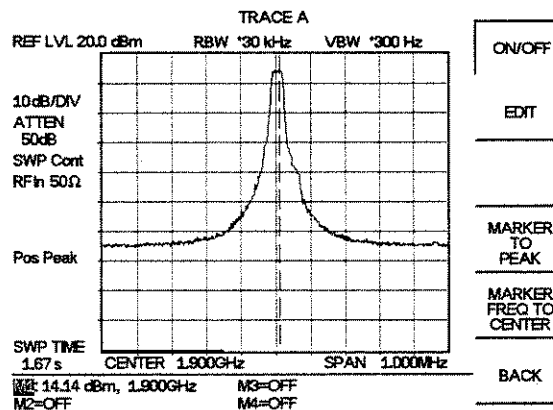

Figure 5-13. Measurement of Two Signals Having Unequal Amplitudes
**Step 7.** Change the resolution bandwidth to 30 kHz. Figure 5-13 shows the results after changing the RBW using a signal combiner/splitter with a loss of 6 dB.